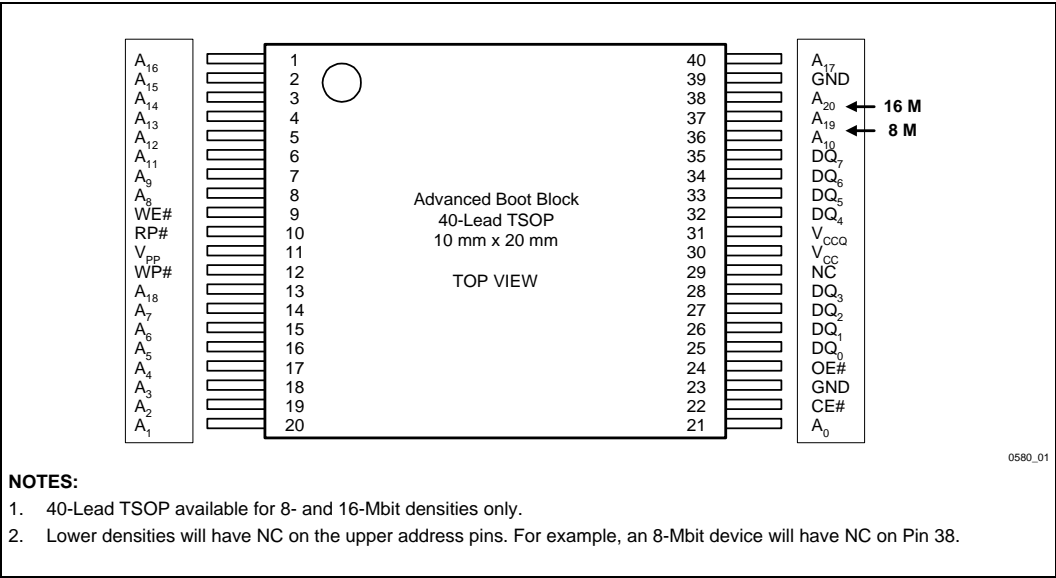
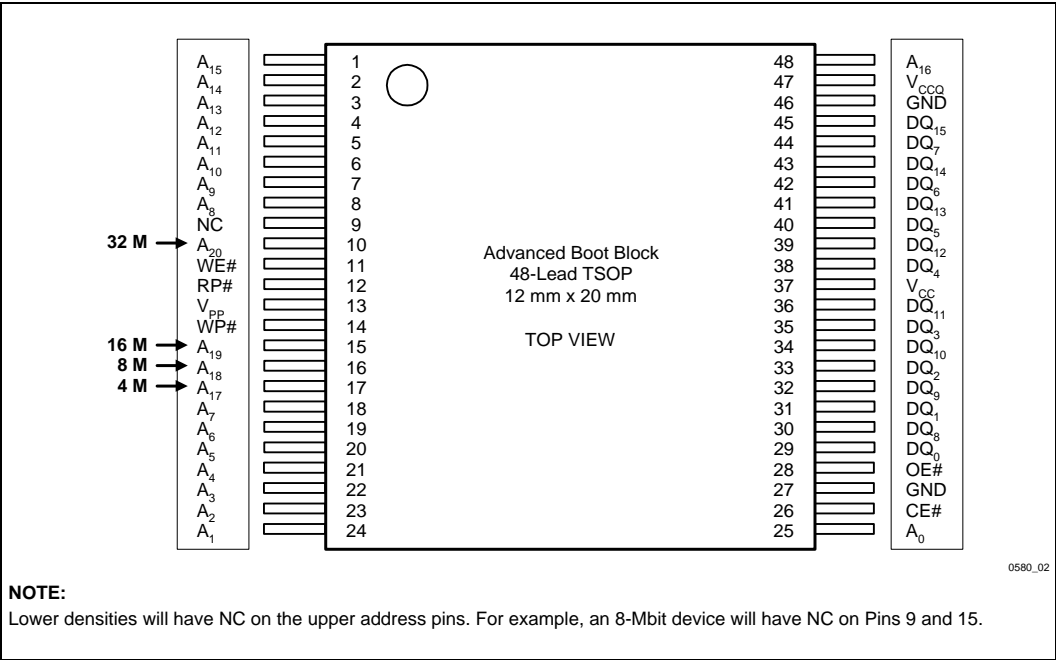
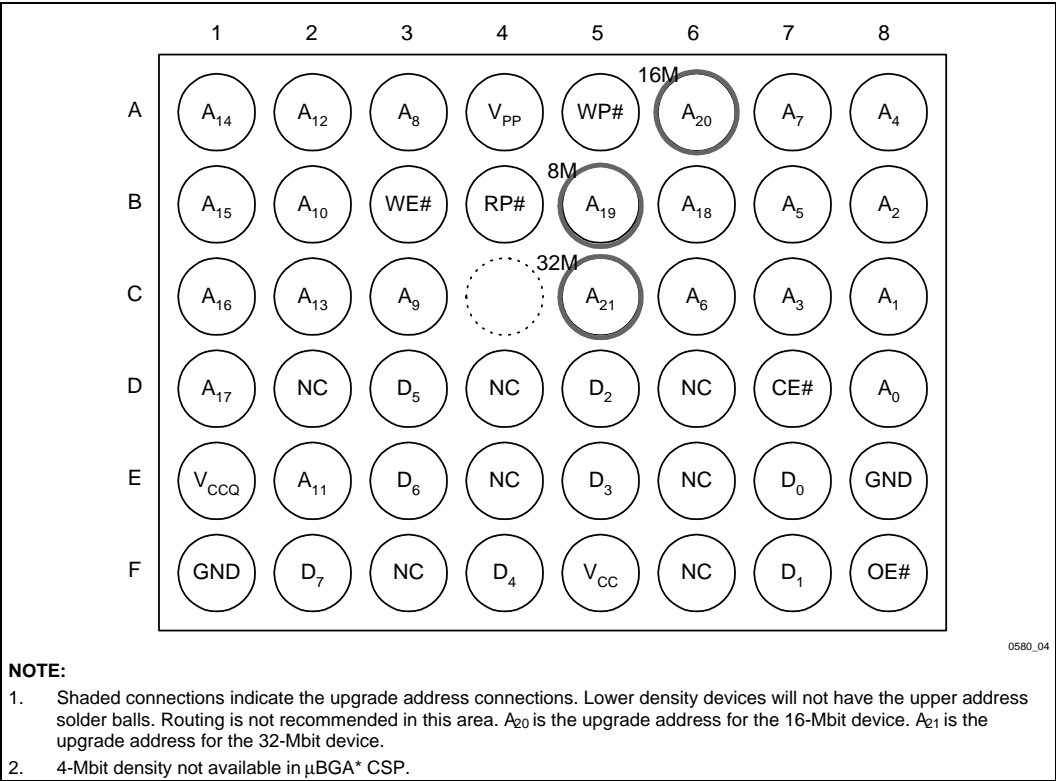
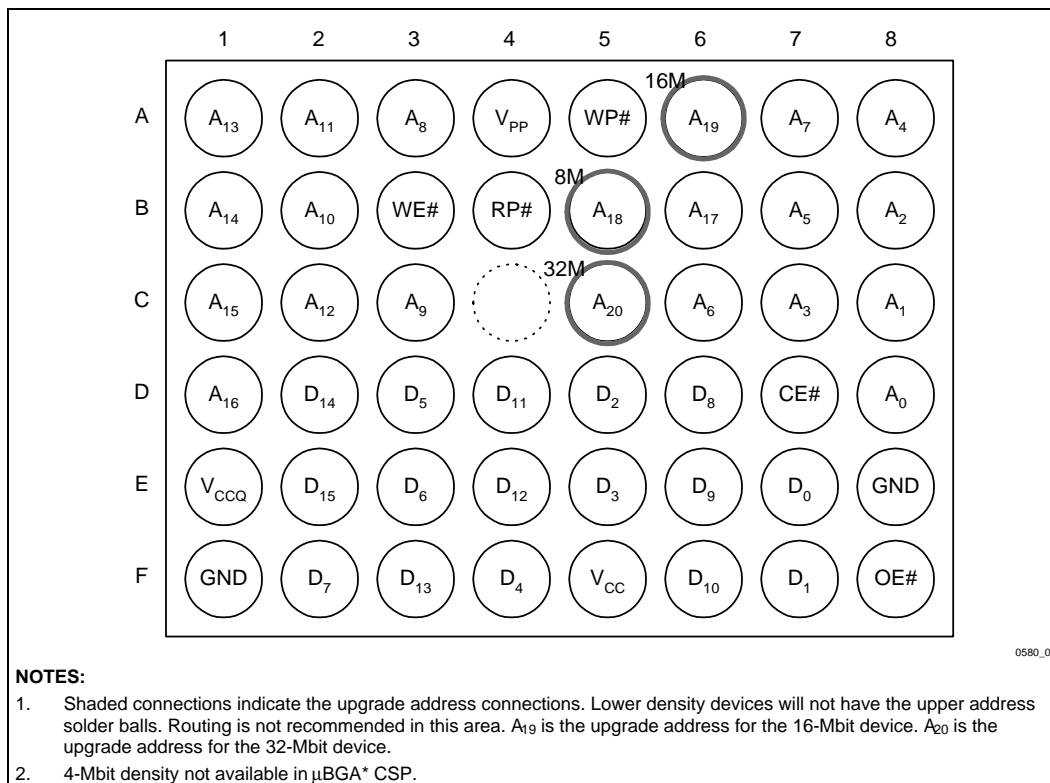

Figure 1. 40-Lead TSOP Package for x8 Configurations
Figure 2. 48-Lead TSOP Package for x16 Configurations
Figure 3. x8 48-Ball μ BGA* Chip Size Package (Top View, Ball Down)
Figure 4. x16 48-Ball μBGA* Chip Size Package (Top View, Ball Down)
| -005 | <p>μBGA package diagrams corrected (Figures 3 and 4)</p> <p>I_{PPD} test conditions corrected (Section 4.4)</p> <p>32-Mbit ordering information corrected (Section 6)</p> <p>μBGA package top side mark information added (Section 6)</p> |
- V_{CCQ} input of 1.65 V–2.5 V on all I/Os. See Figures 1 through 4 for pinout diagrams and V_{CCQ} location
| Packages | 40-lead TSOP ⁽¹⁾ , 48-Ball μ BGA* CSP ⁽²⁾ | 48-Lead TSOP, 48-Ball μ BGA CSP ⁽²⁾ | Figure 3, Figure 4 |
The Smart 3 Advanced Boot Block flash memory is available in 40-lead TSOP (x8, Figure 1), 48-lead TSOP (x16, Figure 2) and 48-ball μ BGA packages (x8 and x16, Figure 3 and Figure 4 respectively). In all figures, pin changes necessary for density upgrades have been circled.